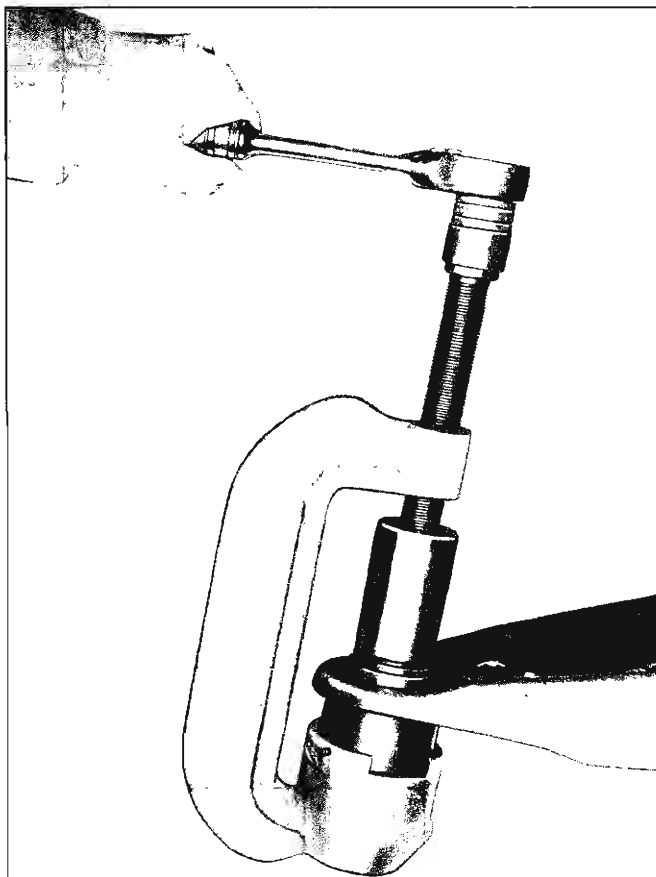

Fig. 29—Removing Lower Ball Joint—Chevelle
3. Use a screw driver to pry off the seal and retainer. Install Tools J-9519-10, J-9519-17 and J-9519-7 as shown in Figure 29 and turn down on the hex head screw until the ball stud is pushed out.